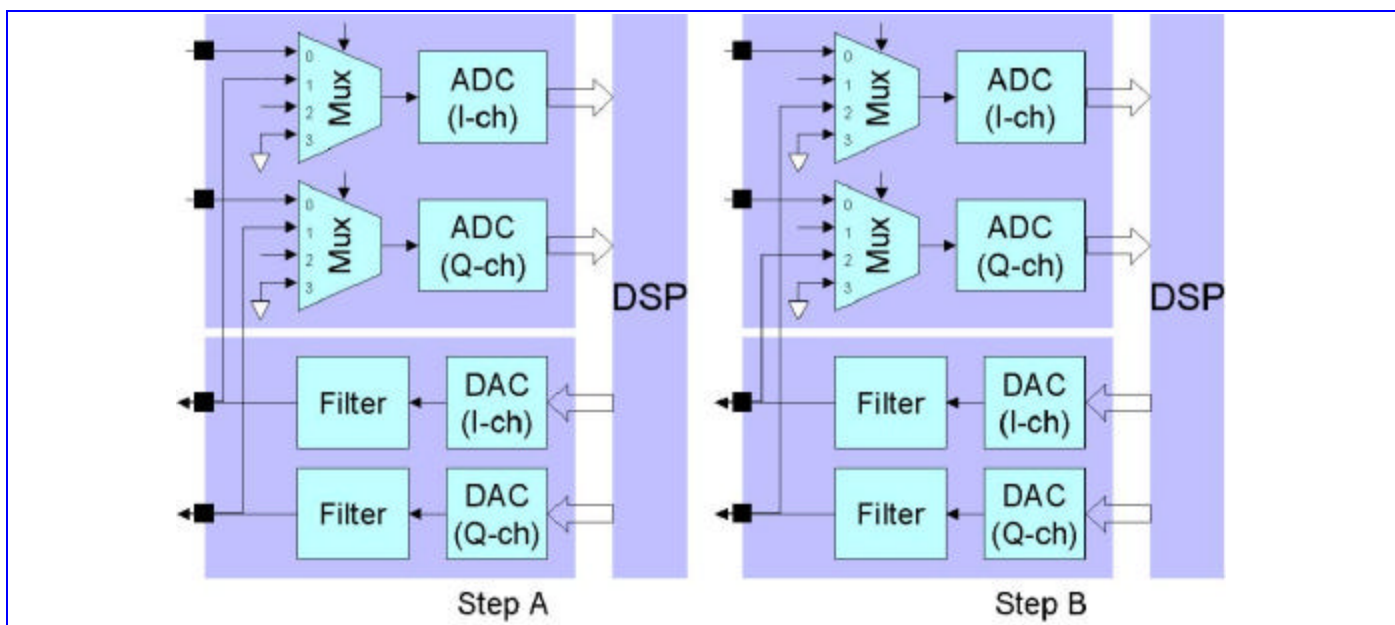

Figure 83 Downlink RX and Up-link TX Gain Mismatch Measurement (A) I/Q TX connect to I/Q RX (B) I/Q TX connect to Q/I RX
- A. The uplink I-channel output are connected to the downlink I-channel input, and the uplink Q-channel output are connected to the downlink Q-channel input. This can be achieved by setting **ISEL [1:0] = '01'** and **QSEL [1:0] = '01'** (shown in **Figure 83 (A)**).
- B. The uplink I-channel output are then connected to the downlink Q-channel input, and the uplink Q-channel output are connected to the downlink I-channel input. This can be achieved by setting **ISEL [1:0] = '10'** and **QSEL [1:0] = '10'** (shown in **Figure 83 (B)**).